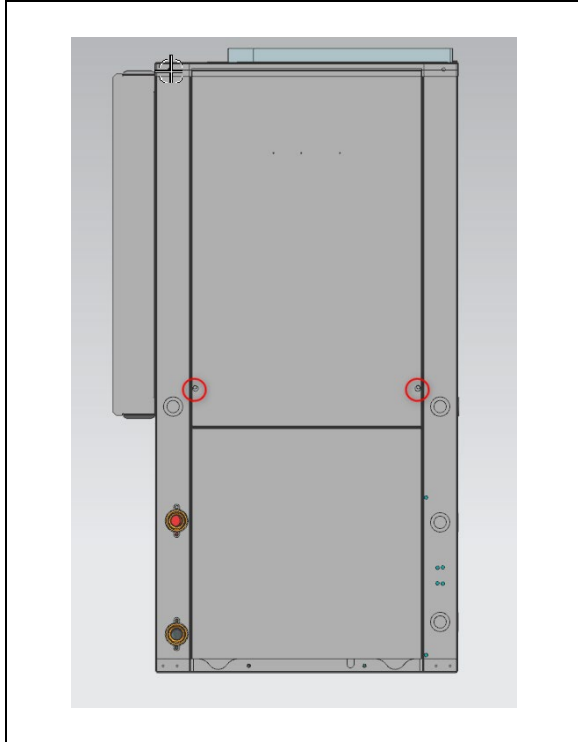

Fig. 1a Blower Access Panel for Vertical unit configuration
- 2) Remove blower access panel. (See Fig. 1a & 1b)